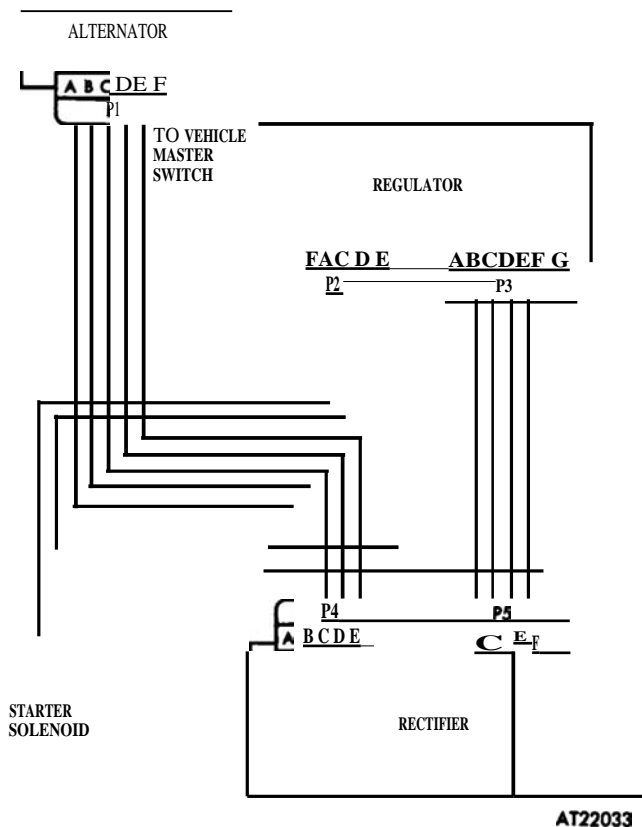

Figure 3-6. 100 Ampere alternator wiring diagram.
(4) Position regulator (12) on the mounting bracket (32) and secure with screws (14) and washers (13).
(5) Position rectifier (37) on bracket (32) and secure with nut (35) and lockwasher (36).
(6) Connect harness (5) connectors and leads to the corresponding receptacles (fig 3-6).
(1) Check each wiring harness as part of the test of each major component. Check plug connections and receptacles at the same time. If visual inspection discloses a harness that appears faulty it can be checked by performing a continuity test using a suitable multimeter.
(2) Disconnect harness and check wiring for continuity (fig 3-6).